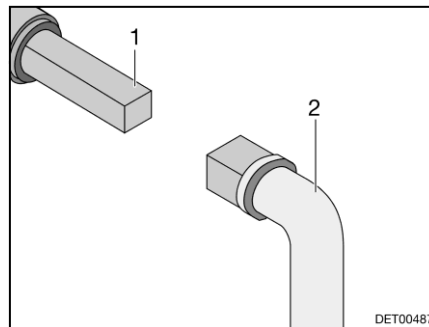

Fig. 102 Operation of the waste water tap
- Place key (Fig. 102,2) onto the square bolt (Fig. 102,1).